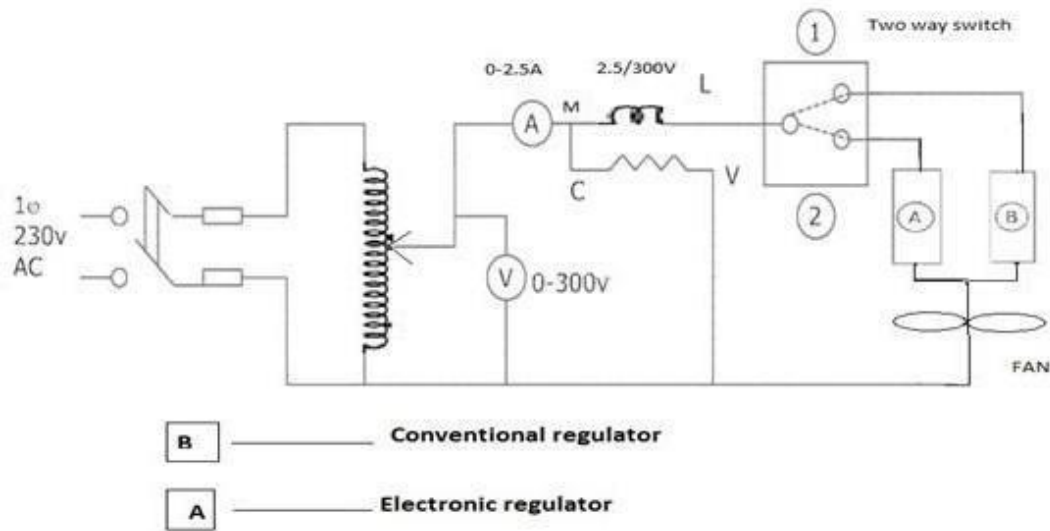

Fig 7.1
1. Make the connection as per the circuit shown in fig 7.1.